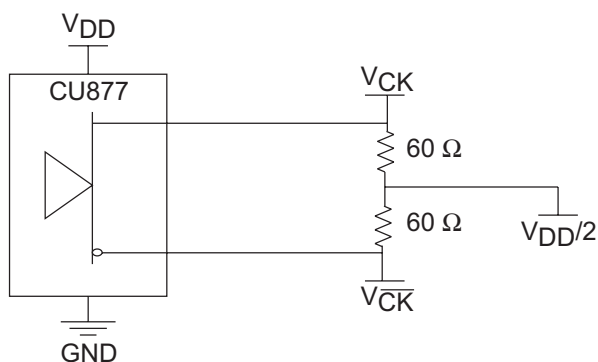
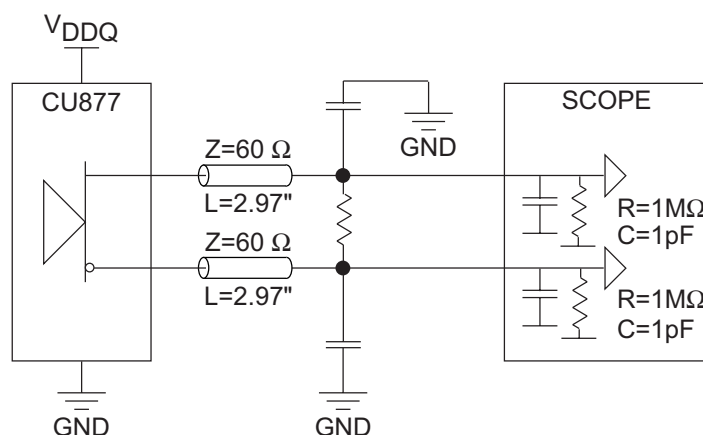

Figure 2. IBIS Model Output Load
Figure 3. Output Load Test Circuit 1
- There are two different terminations that are used with the following tests. The loadboard in Figure 2. IBIS Model Output Load is used to measure the input and output differential-pair cross voltage only. The loadboard in Figure 3. Output Load Test Circuit 1 is used to measure all other tests. For consistency, equal length cables must be used.